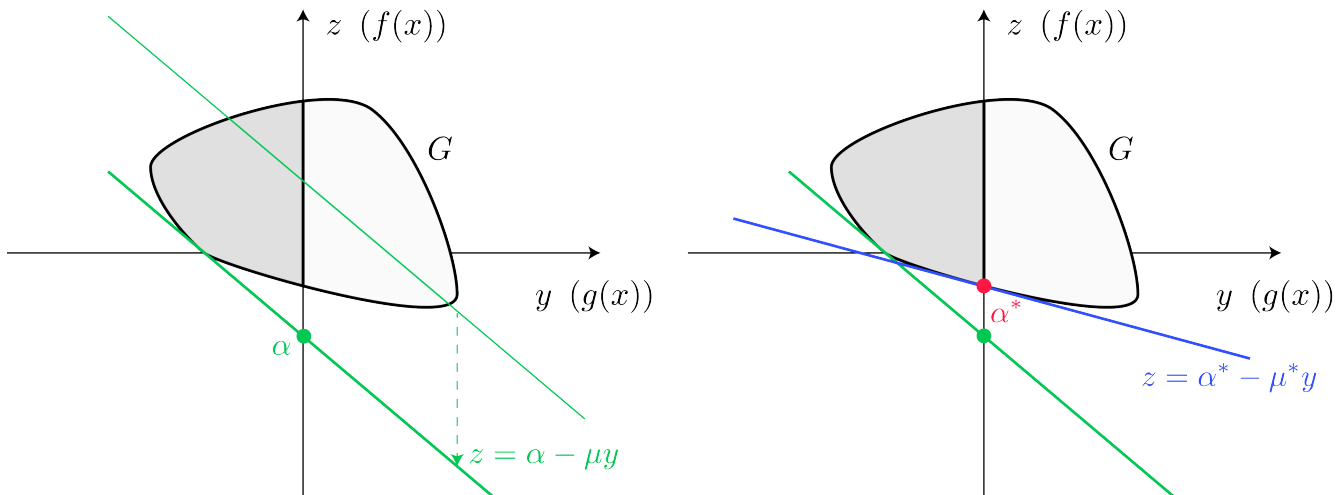

Figure 3: Graphical representation of the dual problem
- The dual function is $\phi(\mu) = \min z + \mu y$. Assume the optimal objective value is α , then the visualization of the solution in the (y, z) space is a line touching G with slope $-\mu$ (LHS of Figure 3). The minimization can be seen as moving the line “downwards” while letting it still touch G .
- The maximization of the dual problem can be seen as changing the slope of the line such that the intercept is maximized (RHS of Figure 3).